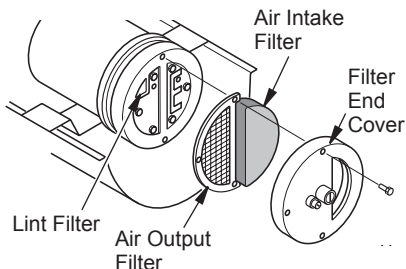

Figure 10 - Air Output, Air Intake, and Lint Filters
2. Remove filter end cover screws using 5/16" nut-driver (see Figure 10).